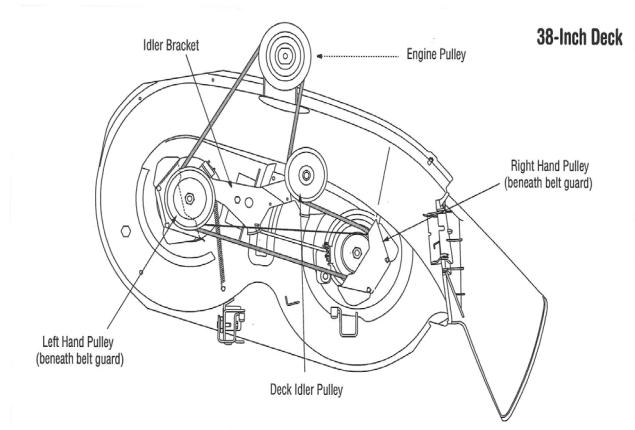

Figure 3.6
- 3.6. The 38" deck has a shorter belt, and a single tensioner pulley to tighten the belt. See Figure 3.6.